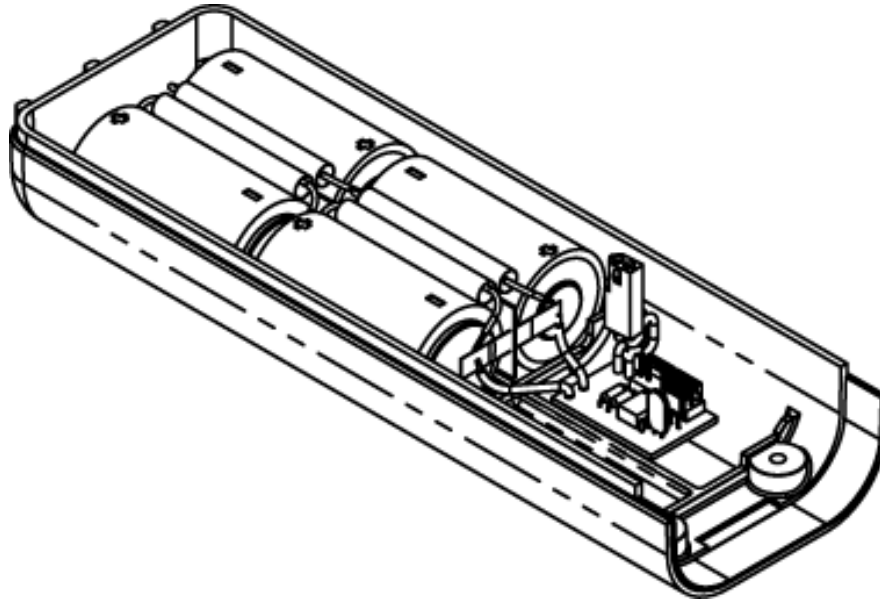

Figure 4 Battery Pack Assembly
- 4) The battery pack for the B406-4 ELT consists of four "D" size lithium manganese dioxide cells connected in series. In an effort to increase the safety of the battery pack, a number of features were designed into the battery pack. To prevent the cells from being charged, diodes are connected across each cell and fuses are connected to the output. See Figure 4 Battery Pack Assembly.